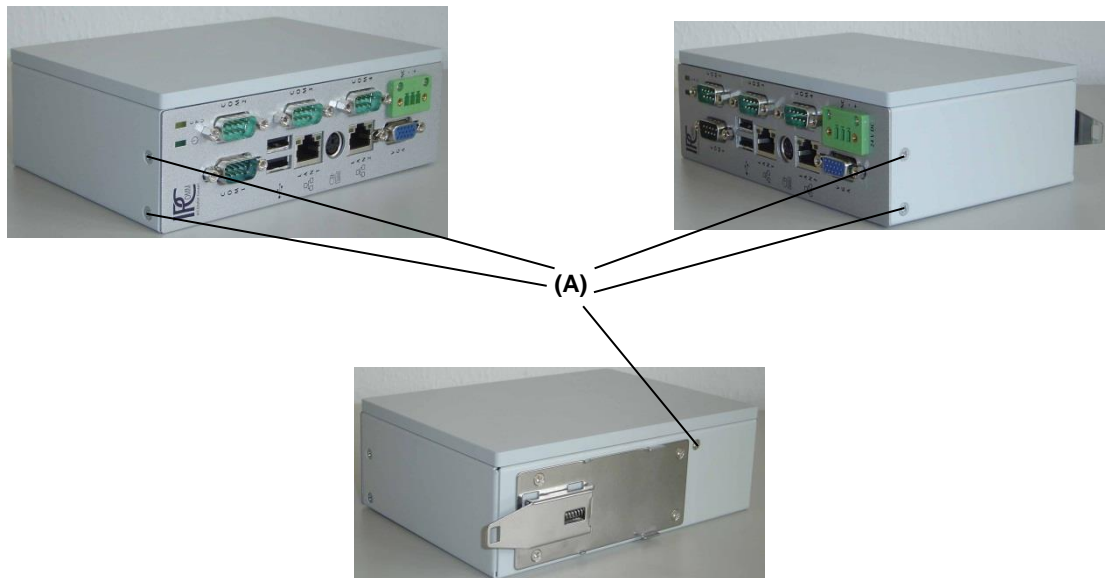
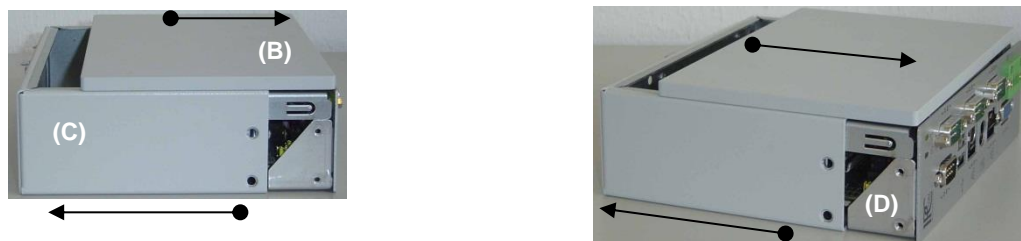

Figure 6: Loosening screws (A)
Figure 7: Demounting of the housing cover
- Now, after “Figure 6: Loosening screws (A)” and “Figure 7: Demounting of the housing cover” change the CompactFlash. Insert the new CompactFlash true sided into the CompactFlash-holder (please note the different groove width) until it snaps in beyond the pressure point.
- Insert in correct position the plug-in board (conductor plate unit) incl. cooling element together with the front board into the housing. Insert and tight the previously loosened screws (“Figure 6: Loosening screws (A)” and “Figure 9: Assembling”).